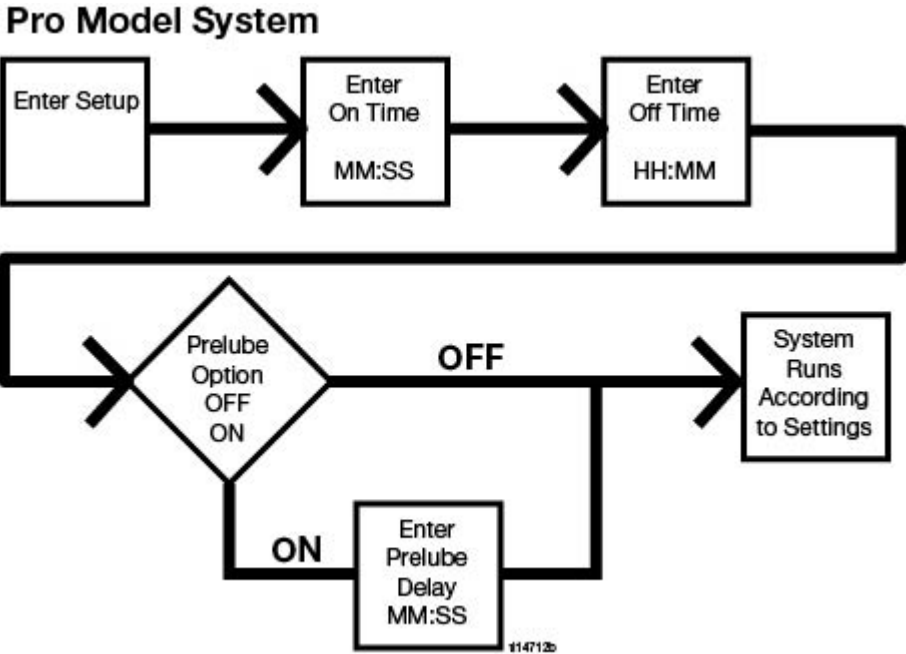

**FIG. 23**
2. Only run pump until air is no longer dispensed with the lubricant coming out of element fitting (FIG. 23).